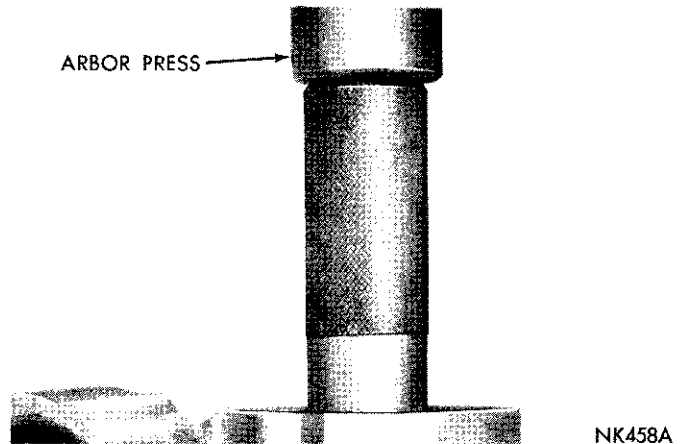

Fig. 9—Installing Inner Bearing
(20) Install inner needle bearing by placing bearing on Tool C-3786 (Fig. 9). Press bearing into inside end of housing bore flush with inside end of bore surface.